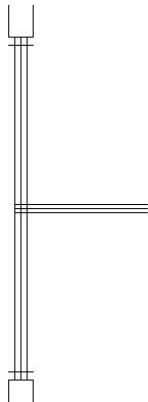

FIGURE 4.44: The offset horizontal guideline
7. Type `o↵` to start the Offset command. Type `1↵` to set the offset distance. Select this new line, and then pick a point in a blank area anywhere above the line. Pick the new horizontal line again, and then pick anywhere below it. The new line has been offset 1" above and below itself (see Figure 4.44). Now you have placed all the lines necessary to create the sliding glass door frames in the opening. You still need to trim back some of these lines and erase others. Press `↵` to end the Offset command.